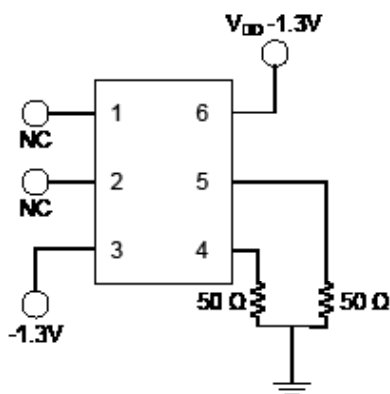
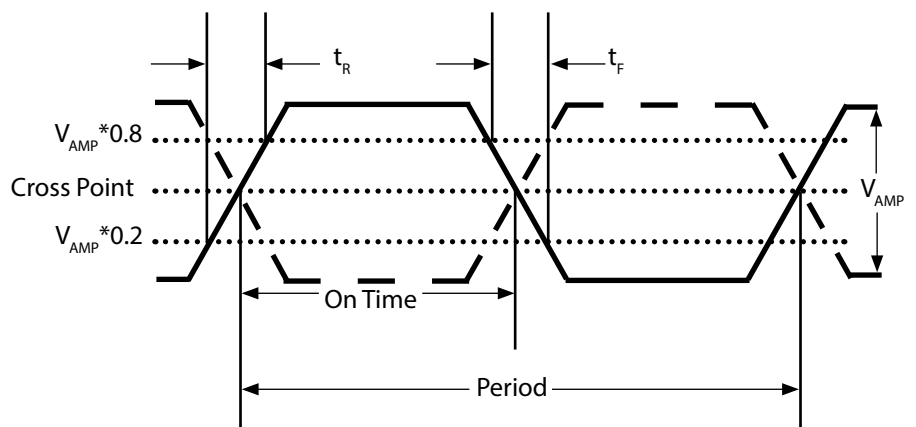

Figure 1.
Figure 2.
3. Figure 1 defines the test circuit and Figure 2 defines these parameters.
3. Figure 2 defines these parameters and Figure 3 defines the test circuit.